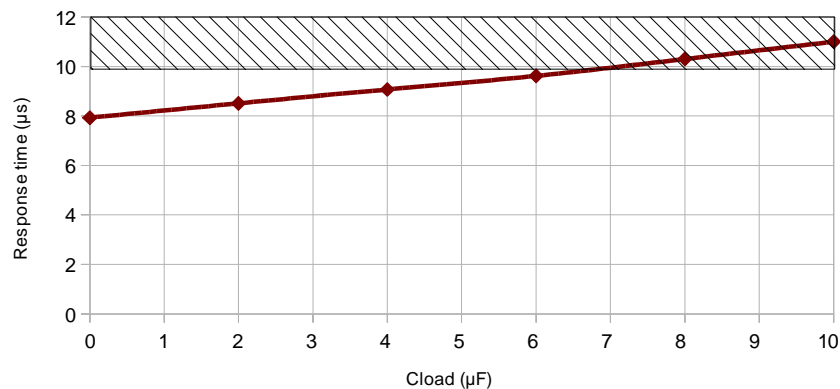

Figure 1: switch OFF time vs Cload
| Switch OFF time see note (6) (current protection activated) | Cload < 7 μ F see Figure 1 | | | 10 | μ s |